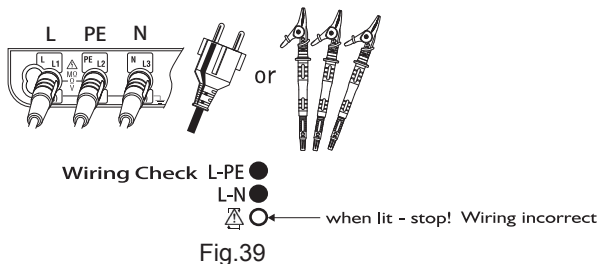

Fig.39
1. Insert the Test Lead into the instrument. (Fig.39)
3. After the connection, ensure that the symbols for Wiring check on the LCD are in the status indicated in Fig.39 before pressing the test button.
If the status of the symbols for Wiring check differ from Fig.39 or ▲○ symbol is indicated on the LCD, DO NOT PROCEED AS THERE IS INCORRECT WIRING. The cause of the fault must be investigated and rectified.